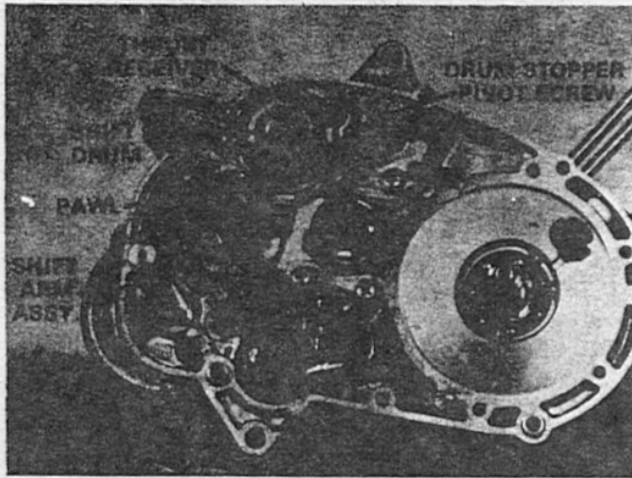

Fig. 10
40. Using an open end wrench, remove the shift drum stopper pivot screw. (Figure 10) Unhook the shift drum stopper spring and remove the shift drum stopper. Inspect it for bends or abnormal wear.